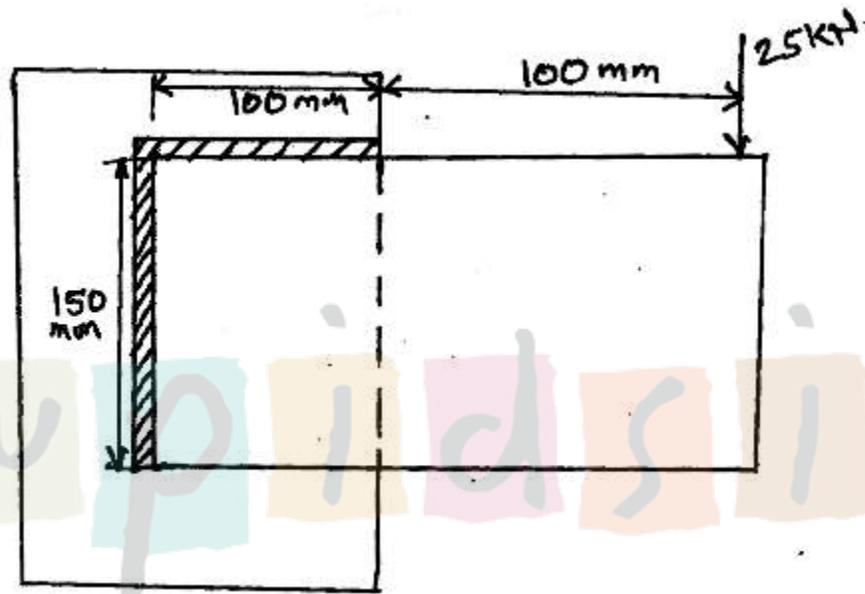

Fig. 4
- (b) A welded connection as shown in Fig. 4. is subjected to an eccentric load of 25 kN. The welding is only on one side. If the permissible shear stress for the weld material is 55 MPa, determine the weld size. [12]